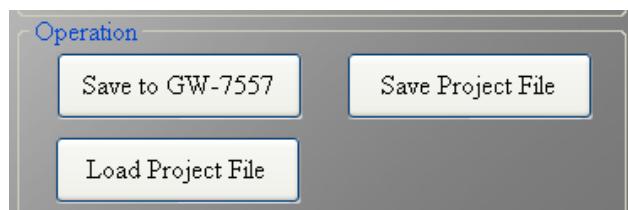

Figure 65 “Operation buttons”
(3) Operation buttons
Operation buttons have 3 parts, they are (1) Save to GW-7557 、 (2) Save Project File 、 and (3) Load Project File, as shown in Figure 65.